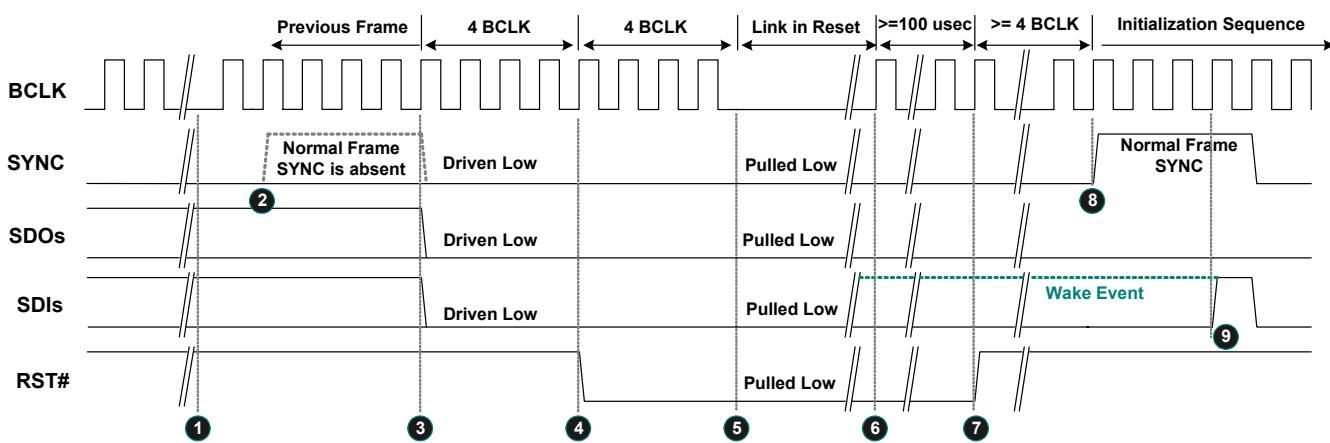

Figure 13. Link Reset Timing
3. Software initiates power management sequences. Figure 13, shows the ‘Link Reset’ timing including the ‘Enter’ sequence (❶~❸) and ‘Exit’ sequence (❹~❻)